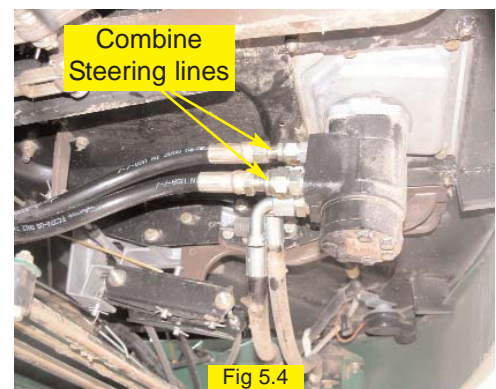

Fig 5.4
Locate the steering lines on the right side of the steering orbital and install the provided run-tees (H and K). (Figure 5.4 and 5.5) Use plastic caps to prevent excess leakage from the open run-tee ports. On newer models it is necessary to use the smaller run-tee (J) for the bottom steering line in place of the larger run-tee (H).